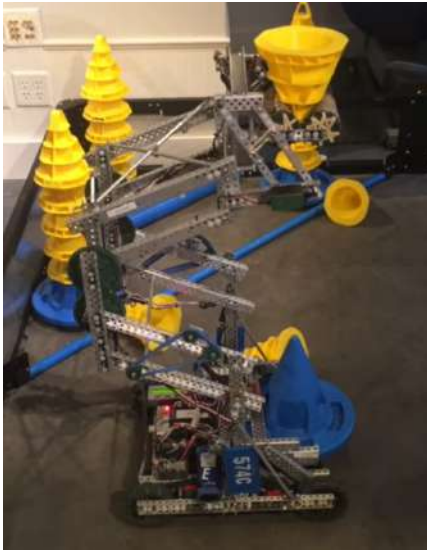

Figure 6: 574C's Double Reverse 4-Bar
- A double reverse 4-bar is a classic Vex lift, used by thousands of teams in past seasons, as seen in figure 6 below by team 574C during the In The Zone season